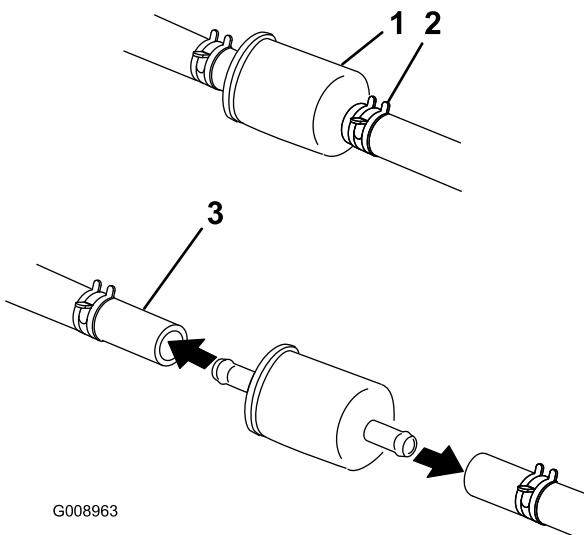

Figure 56
4. Close the fuel shutoff valve under the seat (Figure 56).
5. Squeeze the ends of the hose clamps together and slide them away from the filter (Figure 56).
7. Install a new filter and move the hose clamps close to the filter (Figure 56).